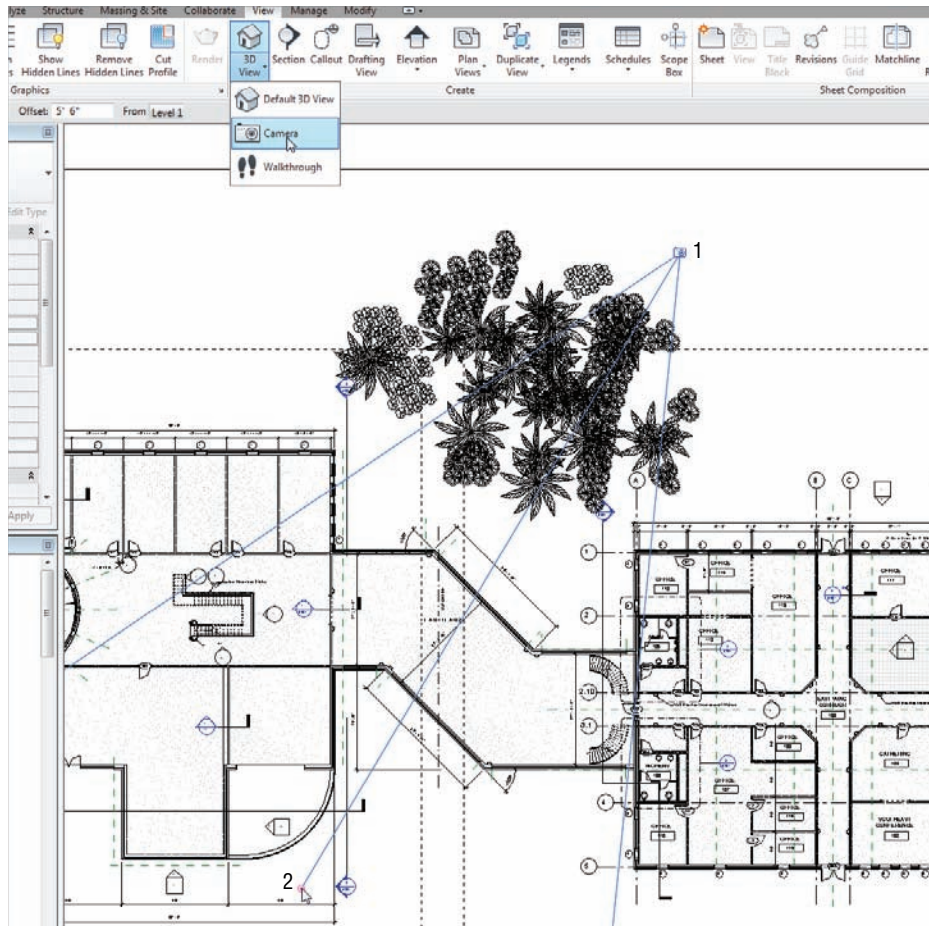

FIGURE 19.1 Add the curtain walls, and create the camera view.
3. Add some curtain walls to the corridors, as shown in Figure 19.1. (Come on, I know you can do it.) These are Level 1 to Level 3 with a -6" (-152mm) offset from Level 3. You can use the Curtain Wall Storefront.
5. Create a camera view of the area shown in Figure 19.1.